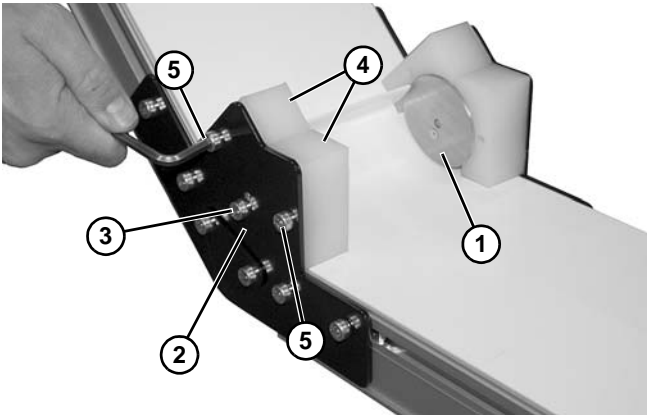

**Figure 77**
3. Install spacers (**Figure 77, item 1**) on both sides of conveyor with screws (**Figure 77, item 2**).
4. Install guard (**Figure 77, item 3**) on both sides of conveyor with screws (**Figure 77, item 4**).